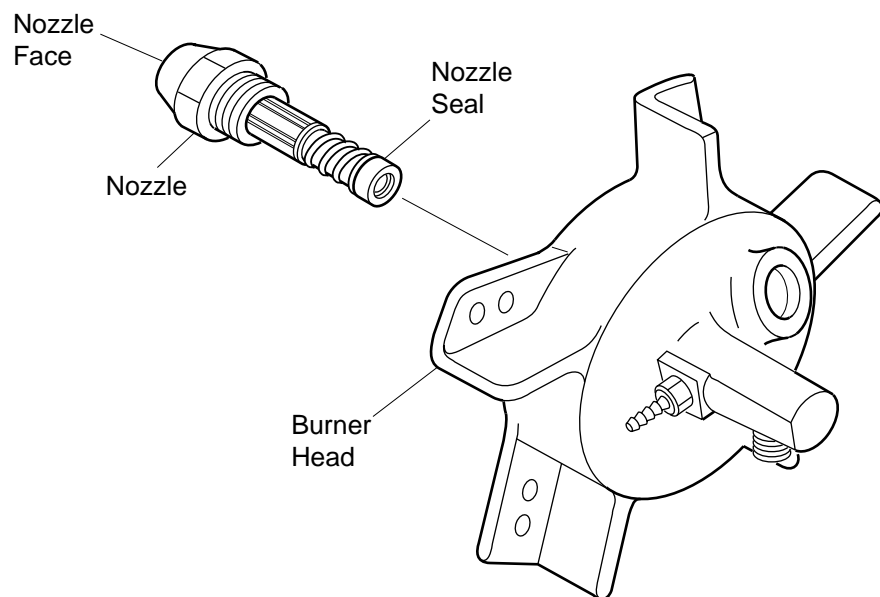

Figure 17 - Removing Nozzle, 150,000 BTU/Hr Model
9. Carefully remove nozzle from burner head using 5/8" socket wrench (see Figure 17).